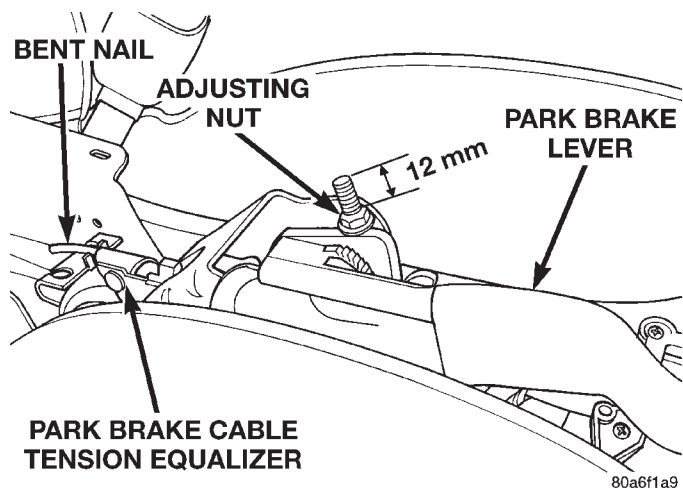

Fig. 158 Park Brake Lever Output Cable Adjustment
(16) Cable tension, for the parking brake system is to be correctly adjusted using the following steps.
- Tighten adjusting nut (Fig. 158) on park brake lever output cable (Fig. 158) until 12 mm millimeters of thread is out past top edge of adjustment nut (Fig. 158).
NOTE: Actuating the park brake lever to its fully applied position 1 time after tightening the adjustment nut will yield (stretch) the bent nail portion of the tension equalizer (Fig. 158) approximately 1/4 inch. This process will correctly set the park brake cable tension.